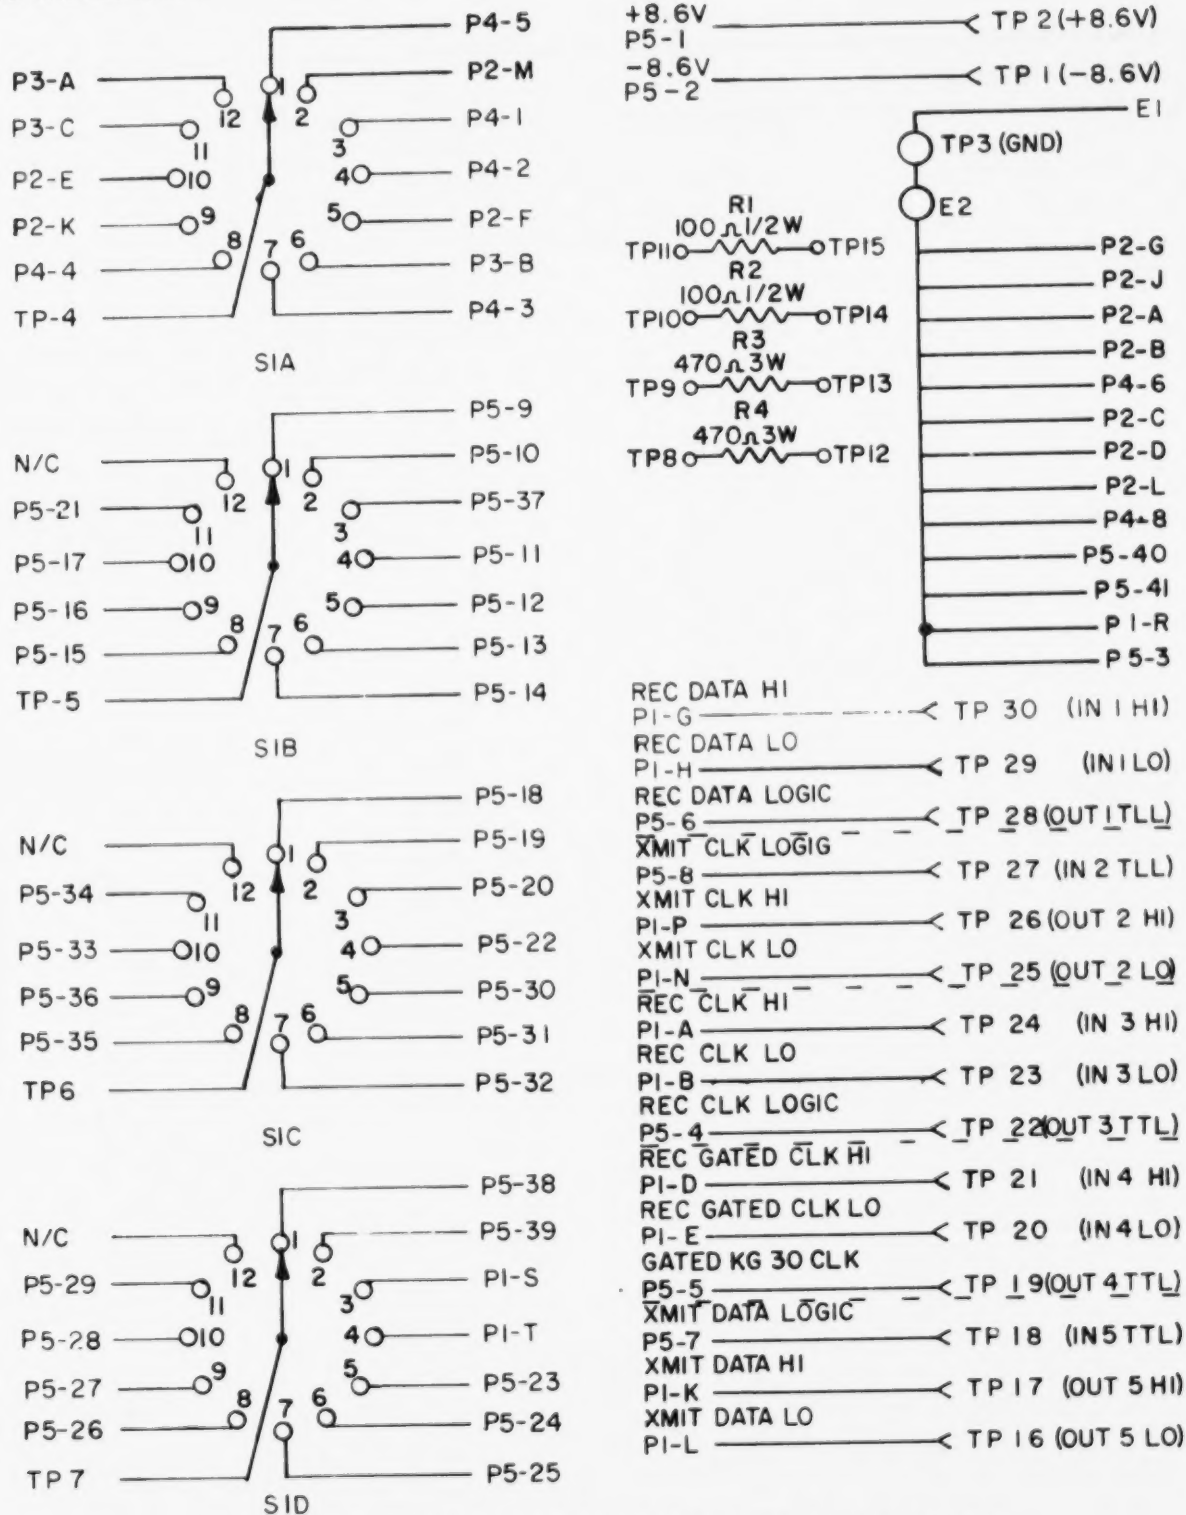

Figure 6-42. INTERFACE ASSEMBLY TEST FIXTURE SCHEMATIC.
D. INTERFACE ASSEMBLY TEST FIXTURE TEST PROCEDURES (fig. 6-42)